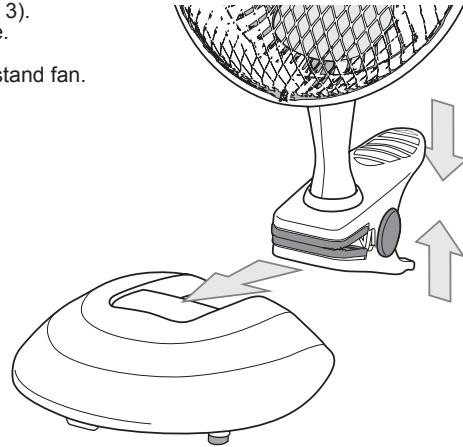

Figure 3
1. Press the ends of the clip together (see figure 3).
- ⚠ Put the clip into the base (7) and you have a stand fan.